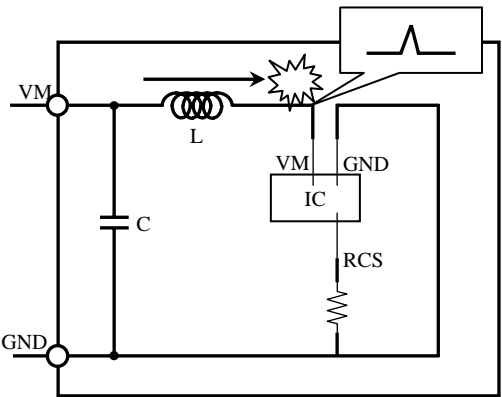
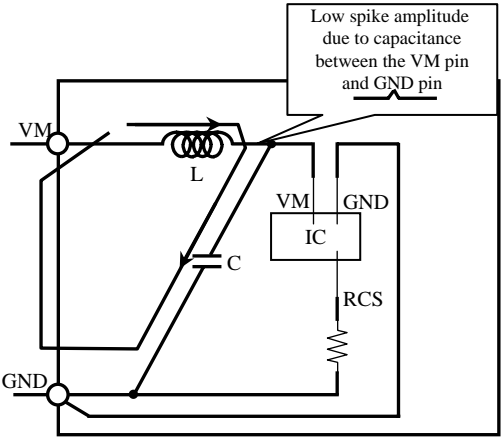

Figure 2. No recommended pattern
Figure 3. Recommended pattern
- 12) A high current flows into the IC. Therefore, the common impedance of PCB can not be ignored. Take the following points into consideration and design the PCB pattern for a motor. Because the wiring connecting to VM1 (Pin 17) and VM2 (Pin 18) of this IC is high-current, it is easy to generate noise at time of switching by wiring L. That might cause malfunction and destruction (Figure 2). As Figure 3, the escape way of the noise is secured by connecting a capacitor to the connector close to the VM pin of the IC. This makes it possible to suppress the fluctuation of direct VM pin voltage of the IC. Make the setting as shown in Figure 3 as much as possible.